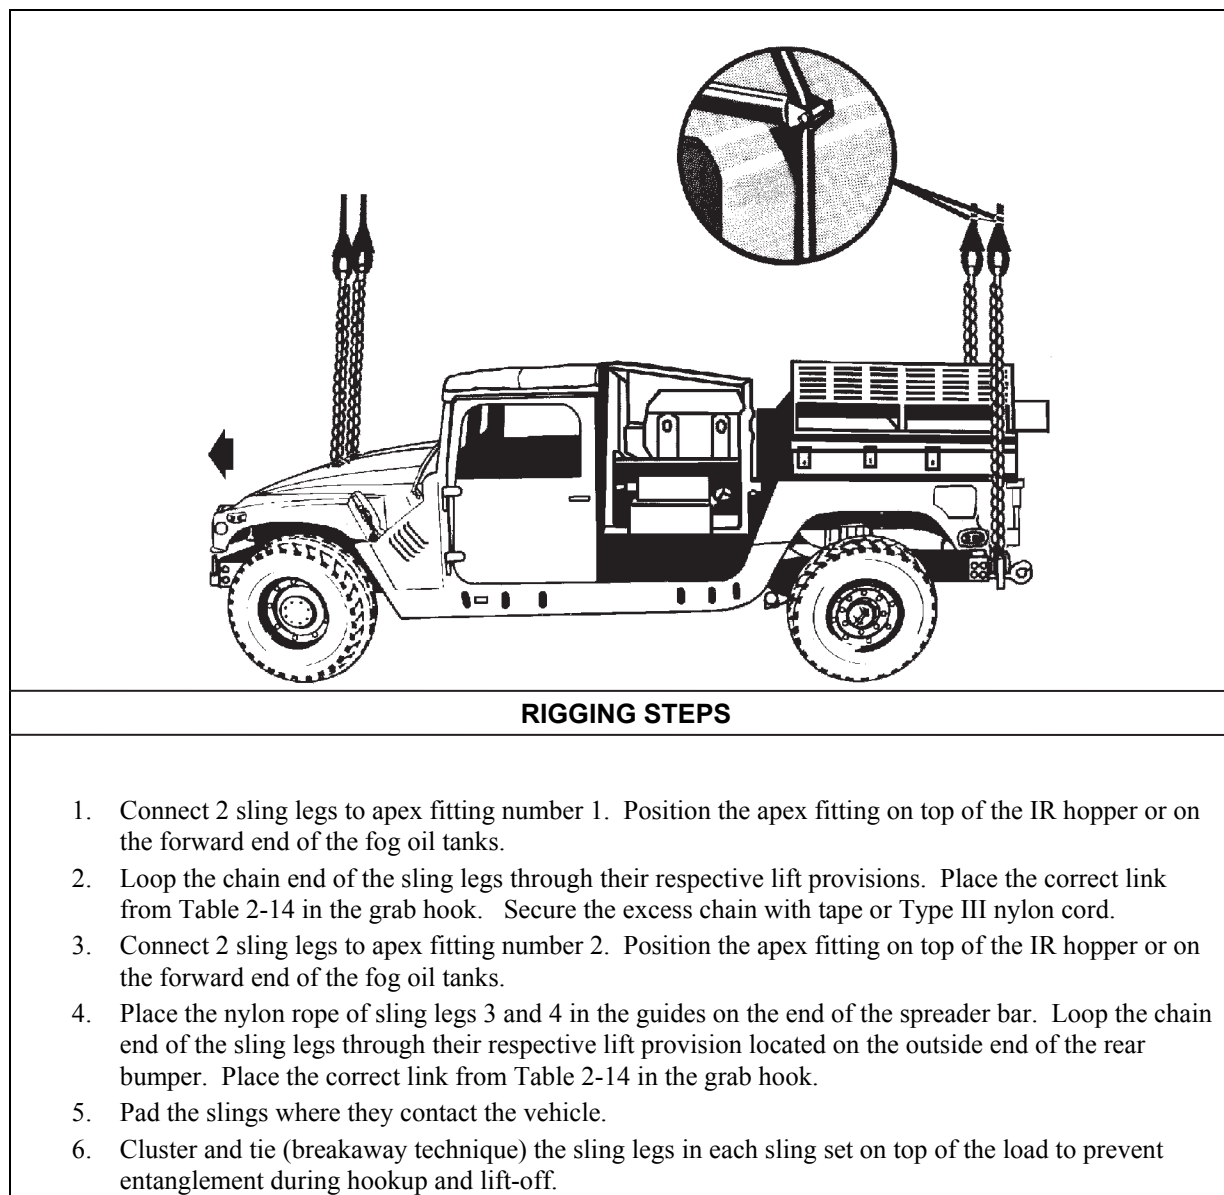

Figure 2-13. M1113 with M56 Smoke Generating System
- **Rigging.** Rig the load according to the steps in Figure 2-13.